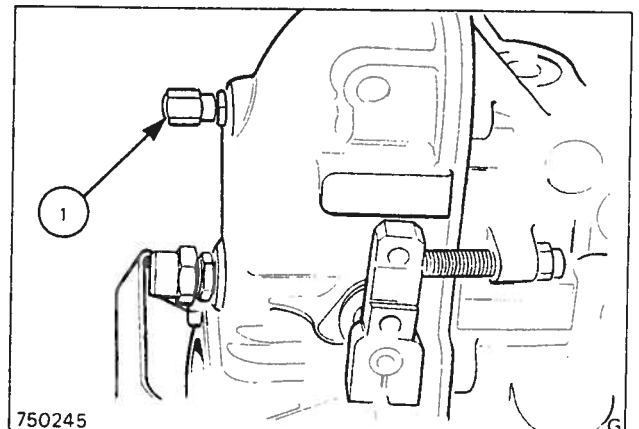

Fig. 72 Location of idling screw
4. Release the idling screw retaining locknut, Fig. 72.